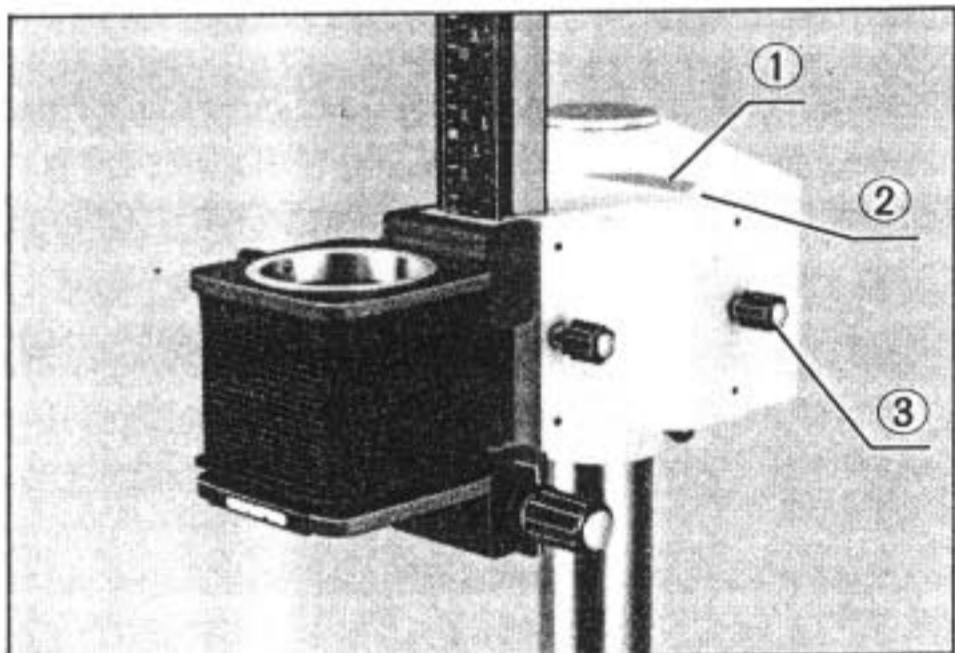

Fig. 3
Insert the dovetail ① of the bellows into the arm ② slowly, until the dovetail comes next to the lower limit knob, and tighten the dovetail clamping knob ③. (Fig. 3)